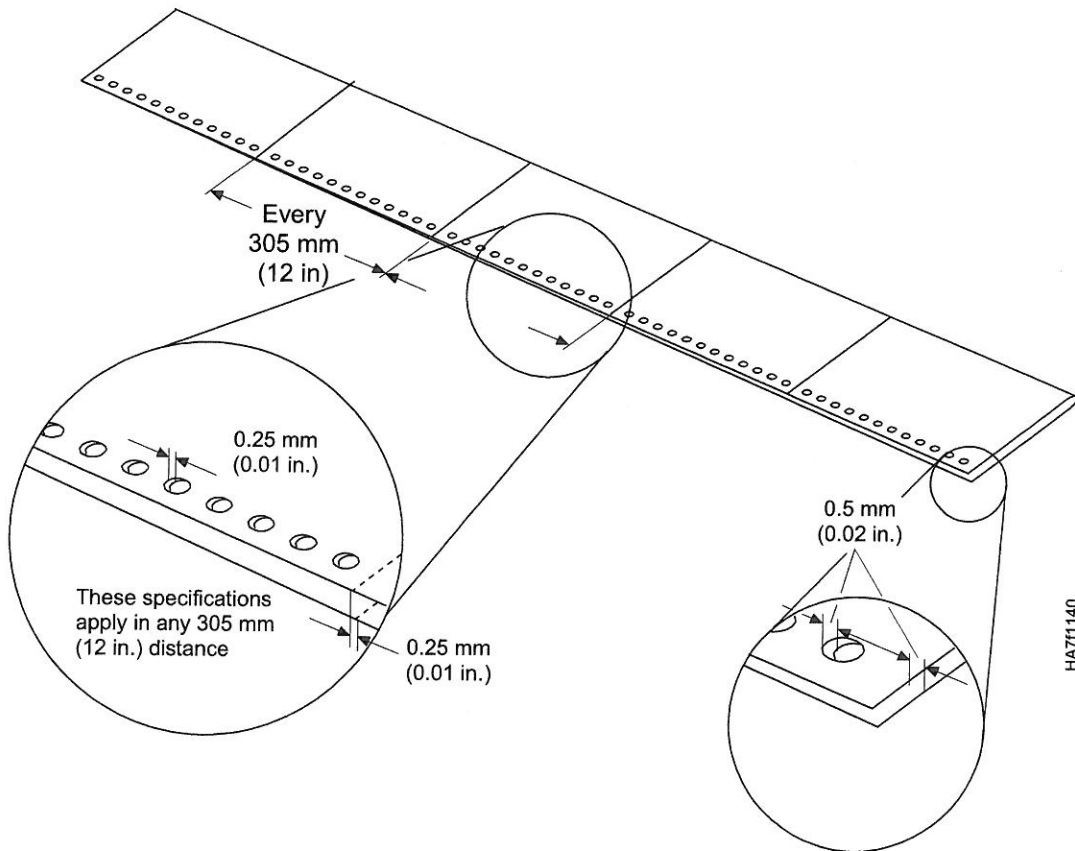

Figure 10. Perforation Accuracy — Edge to Edge
- b. Refer to Figure 10 on page 15 and fold the sheets lengthwise. Measure the page perforations and tractor holes of the two edges as shown.